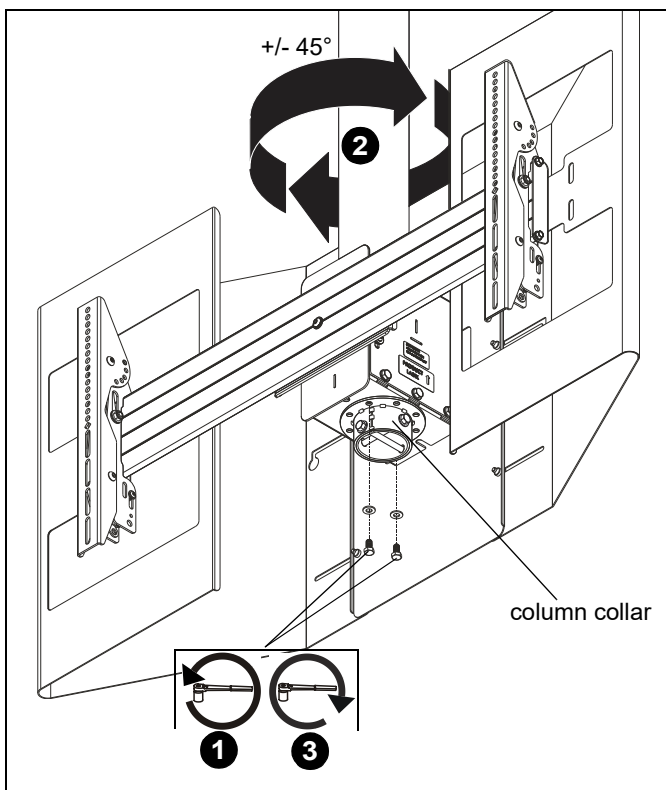

Figure 14
1. Remove two bolts and washers connecting column collar to mount assembly box. (See Figure 14)
2. Adjust yaw in 45° increment until desired position is achieved. (See Figure 14)
3. Reinstall bolts and washers removed in Step 1. (See Figure 14)